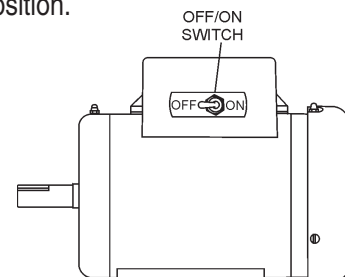

Figure 23. Electric Motor ON/OFF Switch (OFF Position)
- Place the electric motor's **ON/OFF** switch (Figure 23) in the **OFF** position.